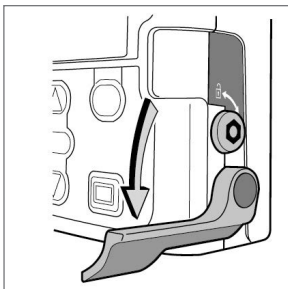

Figure 14: Detaching the cassette
4. Push down on the cassette latch until the cassette comes off. See Figure 14.